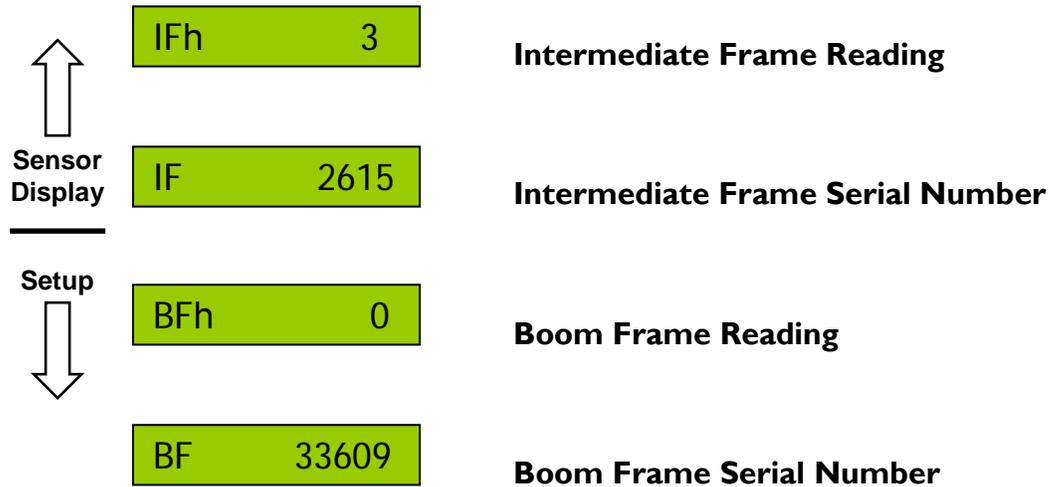

Figure 42: Roll Sensor Setup Menu
2. Navigate to the Boom Frame Roll Sensor (BF). The screen will show the previously installed sensor serial number (if any) as shown in **Figure 42**.
6. Repeat for the Intermediate Frame (IF) Roll Sensor.